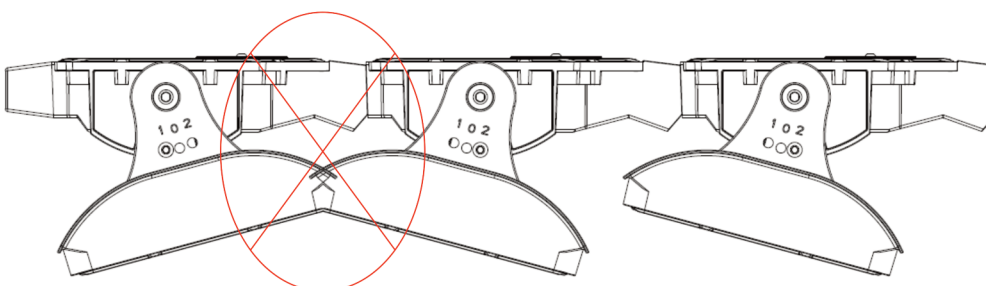

Fig. 4
3. Ensure that two successive heatsinks are not rotated in opposite directions as the heatsink housings will interfere (refer to **Fig. 4**).